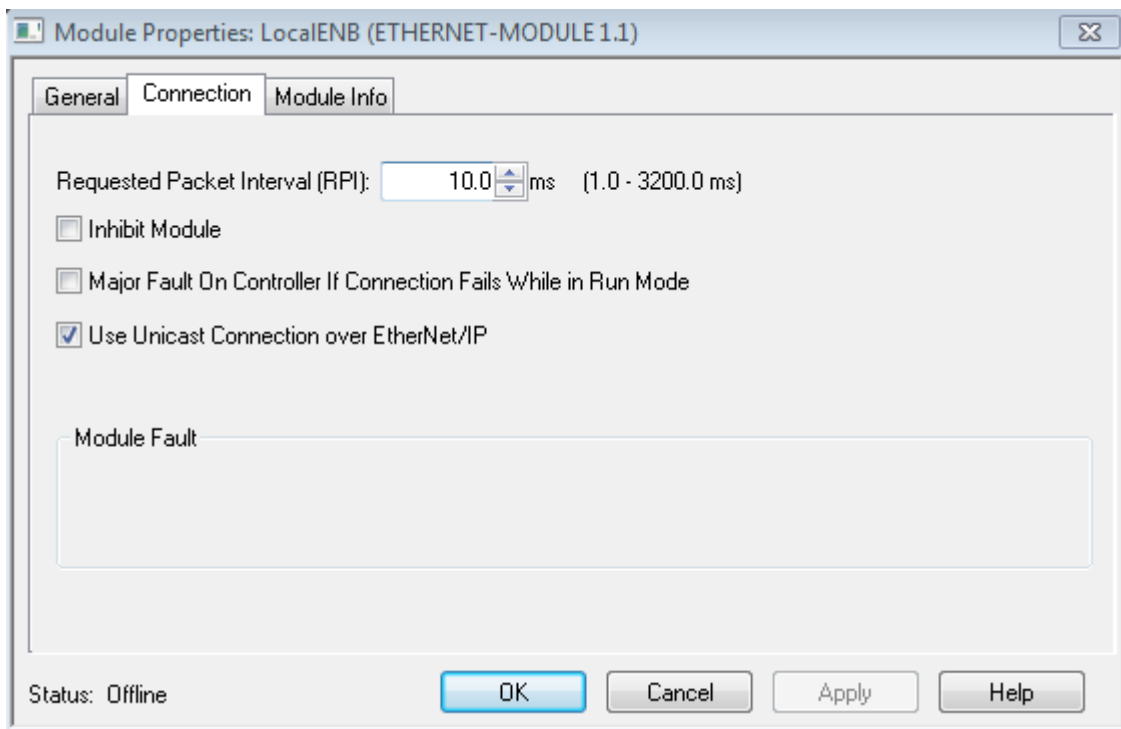

Figure 5-4: Setting Module RPI
- The “New Module” window now appears as a “Module Properties: LocalENB” window with the Connection tab selected. Set the “Requested Packet Interval (RPI)” value to 20.0 ms (this can be reduced to 10.0ms when not using Workbench in combination with EtherNet/IP). If using firmware version 1.8 or higher, check the box “Use Unicast Connection over EtherNet/IP” if the option is available. For older versions of firmware leave this box unchecked. Click OK. (Figure 5-4: Setting Module RPI).